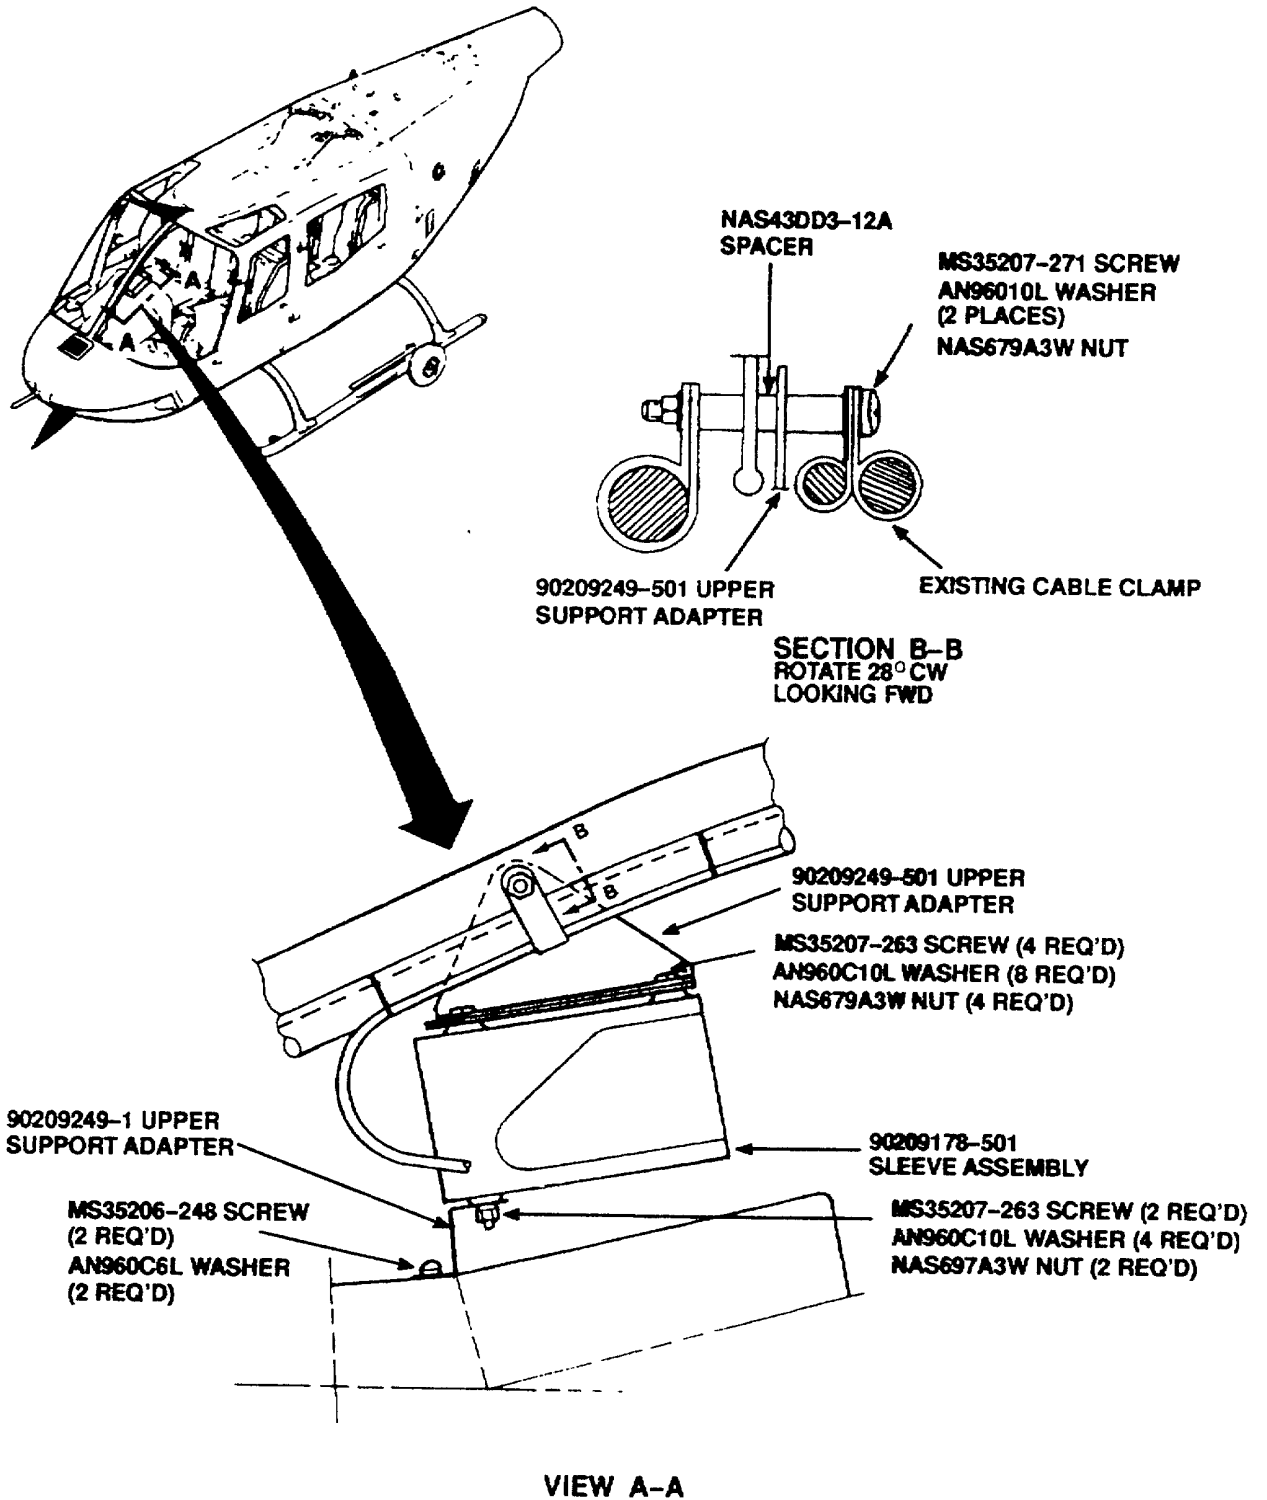

Figure 2. GPS Trimpack Receiver Mount Installation.
- g. Remove GPS Trimpack upper support adapter (PIN 90209249-501) (figure 2).
- h. Remove GPS Trimpack sleeve assembly (PIN 90209178501) (figure 2).
- i. Remove GPS Trimpack lower support adapter (PIN 90209249-1) (figure 2).
- k. Install clamp in windshield center post with shorter screw (Figure 2, Section B-B).